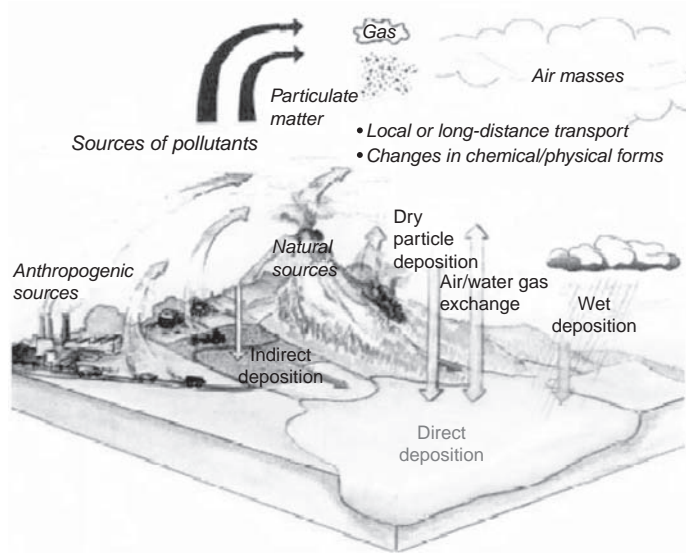

Figure 9.5
- Many pollutants can deposit from air. Once deposited, some vaporize again to settle out at yet another place. See Figure 9.5. If they don't become airborne again they may move off in runoff to water. Or seep down through soil to groundwater, being partially or totally detoxified as they go. In groundwater, they move within the groundwater and, in locales where groundwater and surface water mix, may enter surface water.